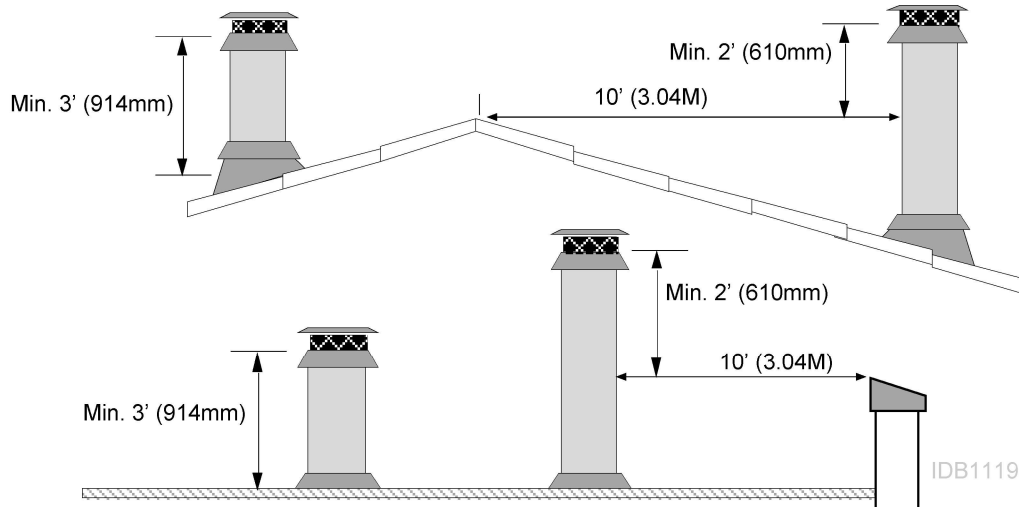

Figure 3
- Must terminate at least 3' above the roof **and** at least 2' above any portion of the roof within 10' (see Figure 3).